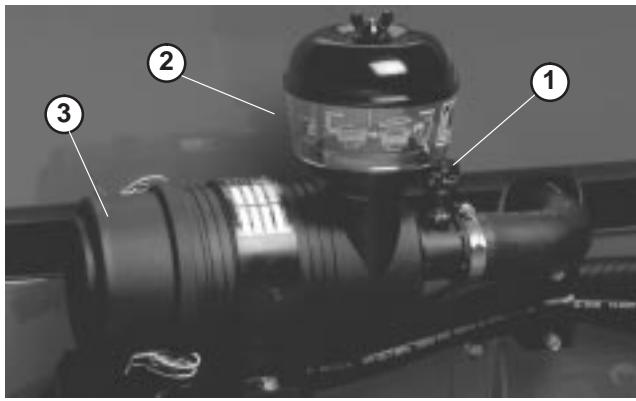

Figure 45
2. Service the air cleaner filters when ever air cleaner indicator (Fig. 45) shows red or every 400 hours (more frequently in extreme dusty or dirty conditions). Do not over service air filter.
9. Reset indicator (Fig. 45) if showing red.